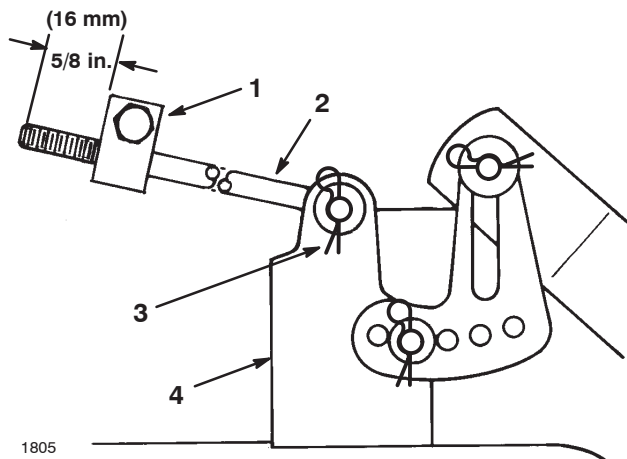

Figure 48
5. Measure the length of the rod extending out of the front of the adjusting block on the sides of the chassis (Fig. 48).
Note: If the rod length is not 5/8 in. (16 mm), remove the hairpin cotter and washer from the end of the rod (Fig. 48) and turn the rod until you obtain the 5/8 in. (16 mm) dimension.